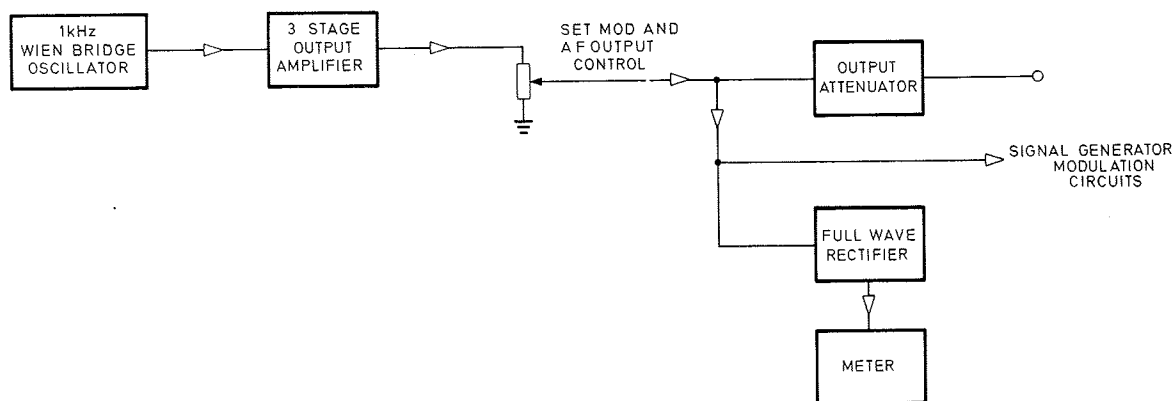

Fig. 3.3 A/F Oscillator Block Diagram
3.4 1 kHz A/F OSCILLATOR (Fig. 3.3 and Fig. 7.2)